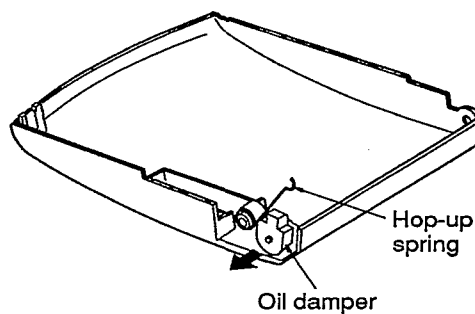

Figure 9
(3) Remove the hop-up spring and oil damper as shown in figure 9.
(4) remove the CD Panel.